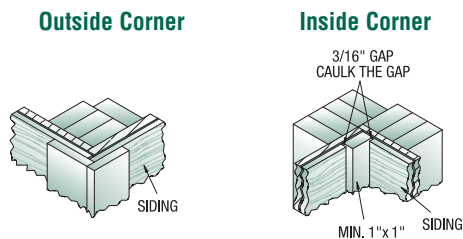

FIG. 3
- Gap the siding at all corners 3/16" and caulk. See Fig 3.
- At corners, use TruWood Trim as shown in diagram. See Fig 3. Make sure all gaps are caulked.